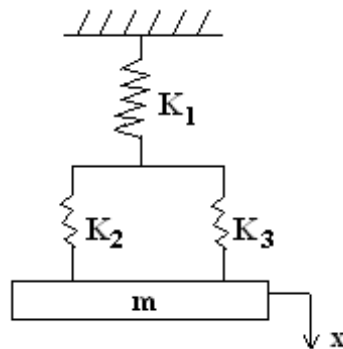

Figure 7
7. A mass is suspended from a spring system as shown in figure 7 Determine the natural frequency of the system. Take  $k_1 = 5000\text{N/m}$ ,  $k_2 = k_3 = 8000\text{ N/m}$ ,  $m = 25\text{ kg}$ . [16]